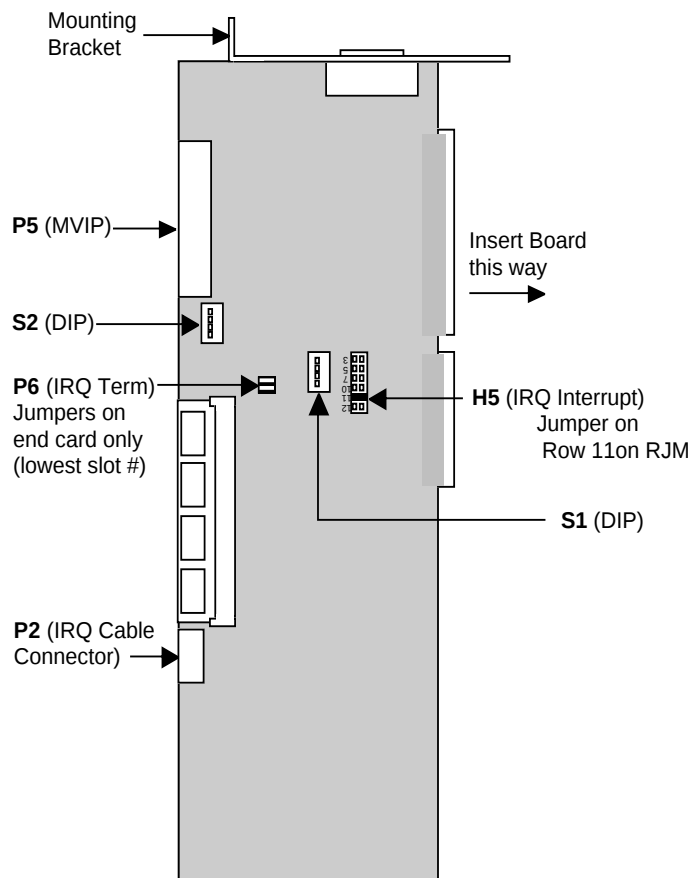

Figure 2-11
1. Remove the **MVIP** cable from connector **P5** on all installed **DSP** boards. Refer to **Figure 2-11**.
2. Remove the **IRQ** cable from the **IRQ** connector (**P2**) on all installed boards. Refer to **Figure 2-11**.